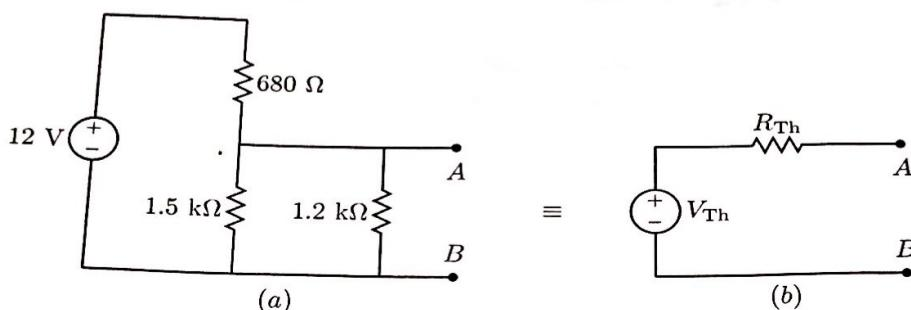

Figure 2: (a) Original circuit, (b) Thévenin Equivalent circuit
Thévenin theorem is an important concept for electrical circuit analysis. The theorem states that any two-terminal network of resistors and voltage sources can be represented by just one resistor  $R_{Th}$  and a voltage source  $V_{Th}$ . Figure 2 illustrates the scenario of the Thévenin equivalent circuit.
We can see that the circuit diagram shown in Figure 2(a) can be transformed into a simple circuit shown in Figure 2(b). According to Thévenin theorem, these two circuits have an equivalent effect at terminals A and B. For instance, the terminal voltage across A and B will be the same for both circuits.
- i. **Circuit setup for Figure 2(a).** Set up the circuit according to the circuit diagram in Figure 2(a) on the breadboard.
- iv. **Measurement of  $R_{Th}$ .** Short-circuit the DC voltage source in Figure 2(a) and measure the resistance between terminals A and B. The measured resistance is  $R_{Th}$ . Record the value in Table 4. According to Thévenin theorem, the Thévenin equivalent resistor can be obtained by measuring the terminal resistance of a network while short-circuiting the voltage source or open-circuiting the current source inside.
- v. **Calculation of  $R_{Th}$ .** Short-circuit the DC voltage source in Figure 2(a). Calculate the resistance between terminals A and B, which is the calculated  $R_{Th}$ . Record the value in Table 4.
- vi. **Obtain the  $I_{1k\Omega}$  in original circuit.** Connect a 1 kΩ resistor to terminals A and B in Figure 2(a). Use a multimeter to measure the current  $I_{1k\Omega}$  through this 1 kΩ resistor. Record the value in Table 5.
- vii. **Obtain the  $I_{1k\Omega}$  in Thévenin equivalent circuit.** Set up the circuit according to the circuit diagram in Figure 2(b) on the breadboard. Use the calculated  $V_{Th}$  and  $R_{Th}$  for the setup. Connect a 1 kΩ resistor to terminals A and B. Use a multimeter to measure the current  $I_{1k\Omega}$ . Record the value in Table 5.
① The measured and calculated value of  $V_{TH}$  and  $R_{TH}$  is unequal, so there are some differences between ideal value and actual value due to the errors.
② The current through the original circuit is equal to the Thevenin equivalent circuit when apply 1 kΩ resistor.
- ii. Based on the comparison of the current through the 1 kΩ resistor in both configurations, is it sensible to use the circuit in Figure 2(b) to replace the one in Figure 2(a) if we would like to study any linear network connected between terminals A and B? State your reason(s).
You need to use PSpice to simulate both circuit setup in Figure 2 and verify your results. Once again, print and glue the output from PSpice onto the box below. Please print, cut and glue the output from PSpice simulation results onto the box below.